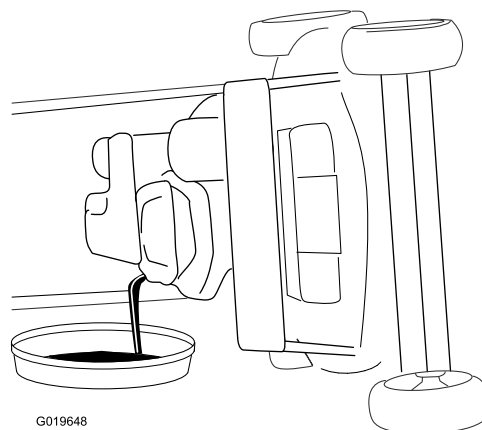

Figure 29
6. Tip the machine, with the air filter up, to drain the oil into the drain pan (Figure 29).